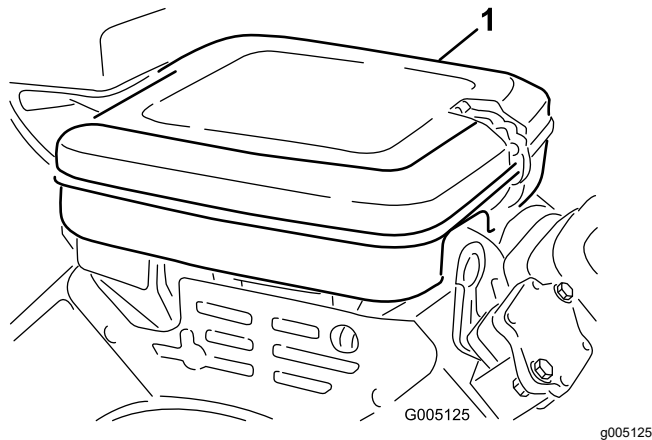

Figure 31
1. Clean the air-cleaner cover (Figure 31).